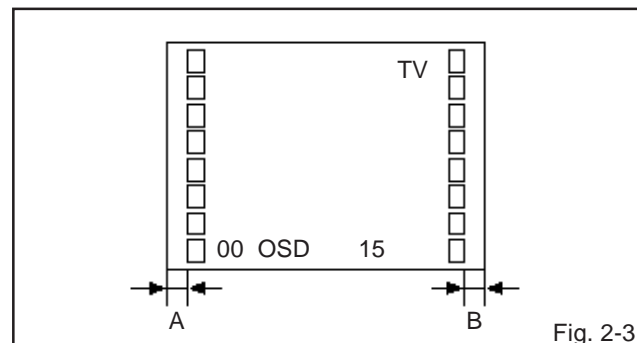

Fig. 2-3
2. Press the VOL. UP/DOWN button on the remote control until the difference of A and B becomes minimum. (**Refer to Fig. 2-3**)